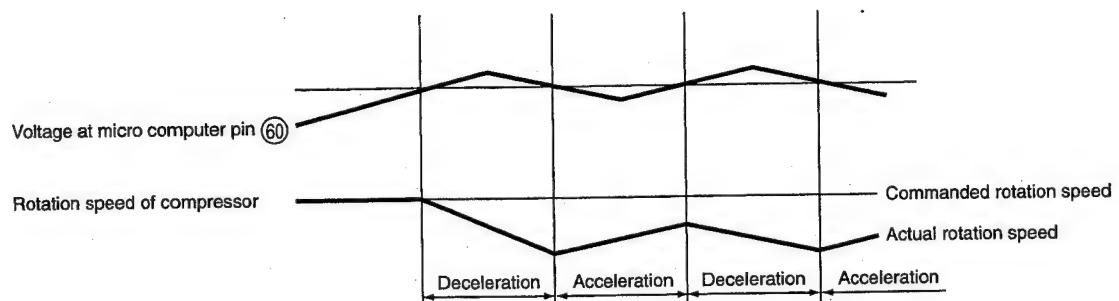

Fig. 8-7
- The filter consisting of R2 and C515 removes high harmonic components from the voltage generated by the current flowing to Detection resistor; R2 and C501A average the voltage. This voltage is then input to OP1 pin ⑤ and amplified and is supplied to micro computer pin ⑩. The micro computer compares this input with the internally set value, and if the input exceeds the set value, it enters overload control status.
- Fig. 8-7 shows the rotation speed control. When the voltage at pin ⑩ of the micro computer exceeds the set value, the micro computer decreases the rotation speed of the compressor and reduces the load regardless of the rotation speed commanded by the indoor micro computer.